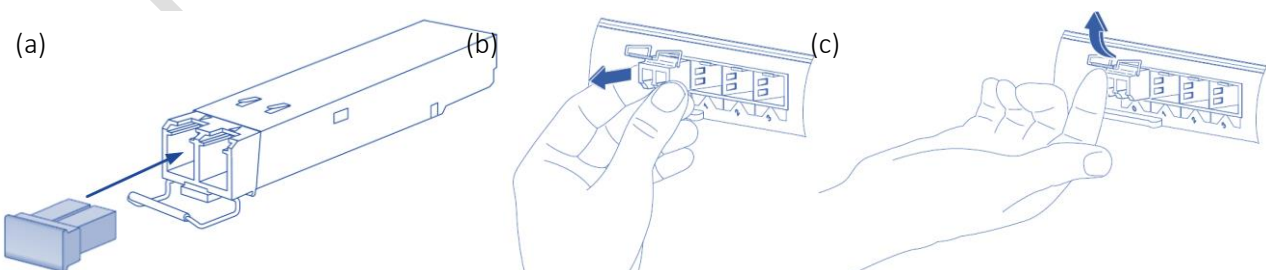

Figure 7 – Removing the SFP+ Module
3. Open the bale clasp on the SFP+ module with your index finger, or a small flat-blade screwdriver, in a downward direction, as shown in Figure 7(a).
4. Grasp the module between your thumb and index finger and carefully remove it from the port, as shown in Figure 7(b).
5. Insert the clean dust covers into the module, as shown in Figure 7(c).